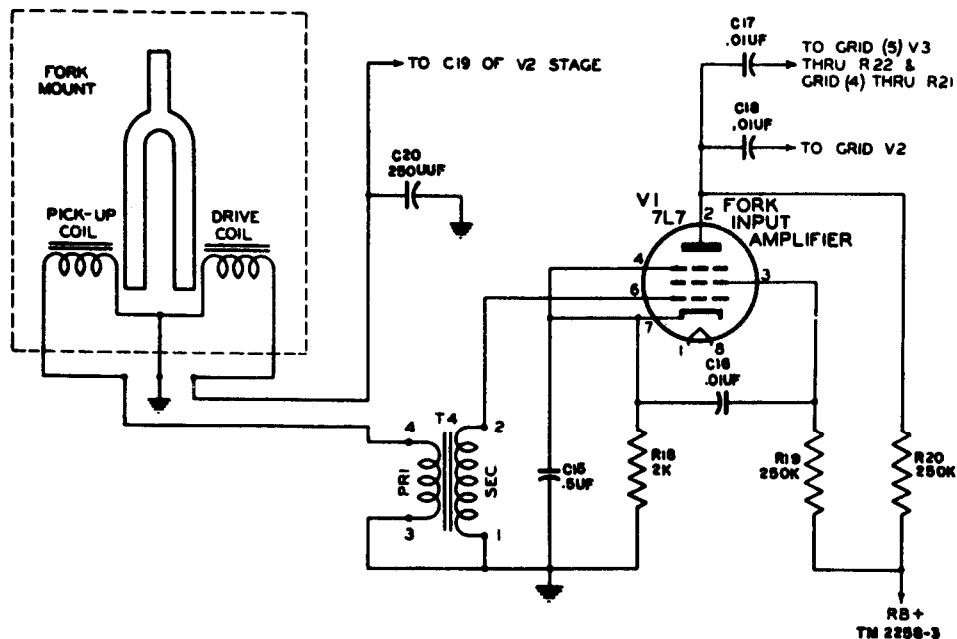

Figure 35. Fork input amplifier, unsealed fork oscillator unit.
The fork oscillator unit generates a highly stable 1,800-cycle audio signal to supply the photocell bridge modulator circuit, the motor amplifier circuit, and the exciter lamp circuit. The unsealed unit, used in Facsimile Transceiver TT-1/TXC-1 only (serial numbers up to 105 on order No. 2695-MPD-45), consists of three stages: a fork input amplifier (V1), a fork driver (V2), and a dual tube (V3) whose sections serve as output buffers (figs. 35 through 37). All three stages are supplied regulated B+ voltage. The sealed unit is described in paragraph 70.
*b. Fork Input Amplifier* (fig. 35). This stage, V1 using a type 7L7 tube, amplifies the small oscillations from the tuning fork and drives tube V2, the fork driver, and also the two output buffer sections of V3. Energy from the fork pick-up coil is coupled through transformer T4 directly to the grid of V1 (pin 6). Transformer T4 steps up the voltage from approximately .4 volt to 1.0 volt. The tube is biased by the flow of plate current through cathode resistor R18 which is bypassed by C15. Screen and plate voltage is applied through screen dropping resistor R19 and plate load resistor R20 from the regulated +250-volt supply. The screen is bypassed to cathode by C16 to improve the stability of amplification in this stage. Sine-wave voltage developed across R20 is coupled from the plate through capacitor C18 to the grid of V2 (pin 6) and through C17 to the output buffers. C20, a bypass capacitor across the fork drive coil, suppresses harmonics of the 1,800-cycle signal.